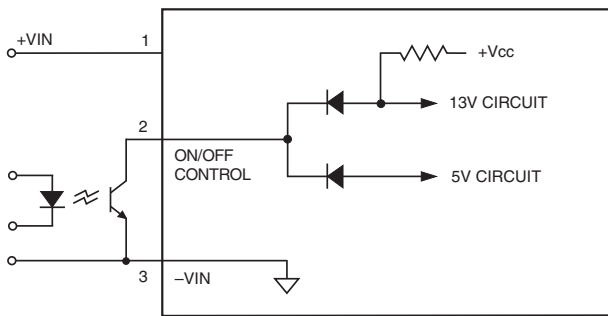

Figure 8. Driving the Negative Logic On/Off Control Pin (simplified circuit)
**Positive** (no suffix) logic models are enabled when pin 2 is left open (or is pulled high, applying +3.5V to +13.5V with respect to -Input, pin 1) as per Figure 8. Positive-logic devices are disabled when pin 2 is pulled low (0 to 0.8V with respect to -Input).